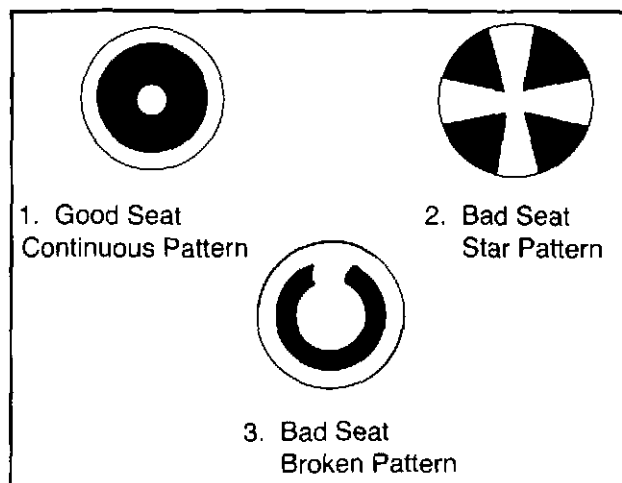

Fig. 3-12, (F60108). Seat pattern of plunger in cup
3. Inspect the cup for plunger seat pattern. Select a new plunger and coat with Prussian Blue. Insert the plunger in a cup and rotate 90 degrees. If plunger seat covers a 40 percent continuous area around the cup cone or plunger bore, it is possible the cup may be reused. The cup must pass the ST-990 or 3375375 cup-to-plunger leak test. Fig. 3-12.